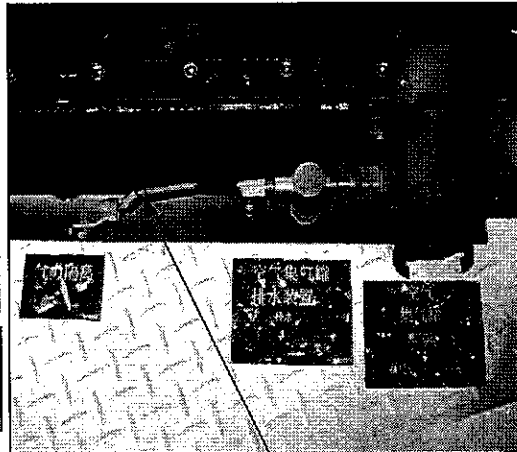

Figure 4.1.2 Main Air Isolation Valve
6. Close the Main air Isolating valve (Figure 4.1.2)